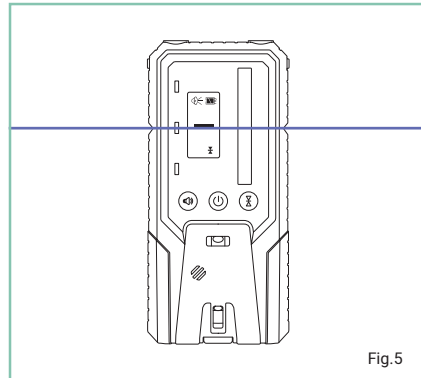
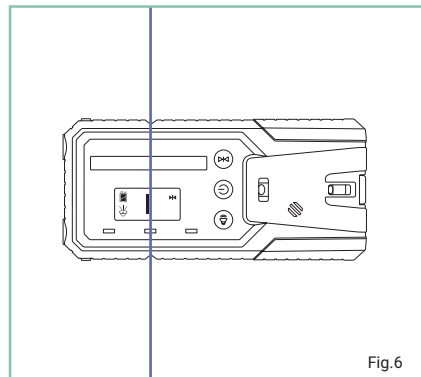

Fig. 5
Fig. 6
- Hold the detector upright for horizontal beams (Fig. 5). Rotate the detector 90° for vertical beams (Fig. 6).